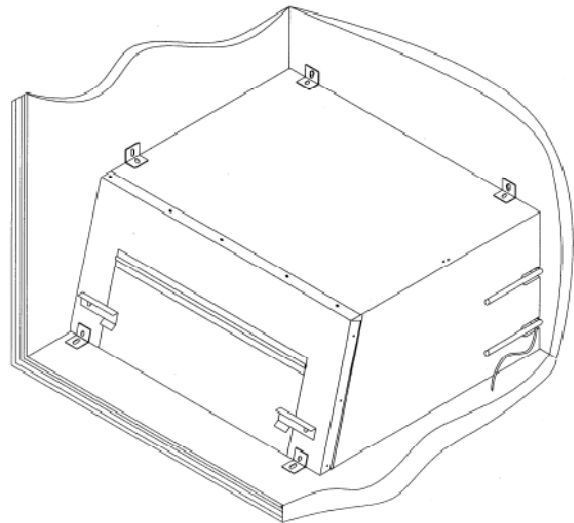

Figure 8.2 Refrigeration Unit Housing
3. Remove the refrigeration unit housing (Refer to Figure 8.2).
- a. Locate the notches on the back right corner of the housing (Refer to Figure 8.2).